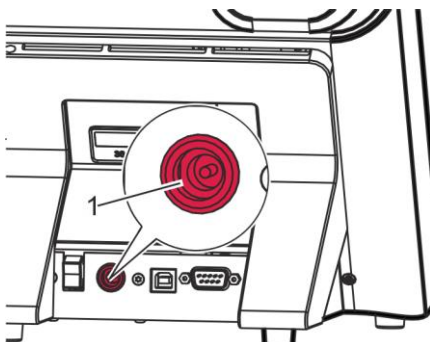

Fig. 35: Mains connection
5. Pull the power supply unit adapter from the mains connection (Fig. 35).